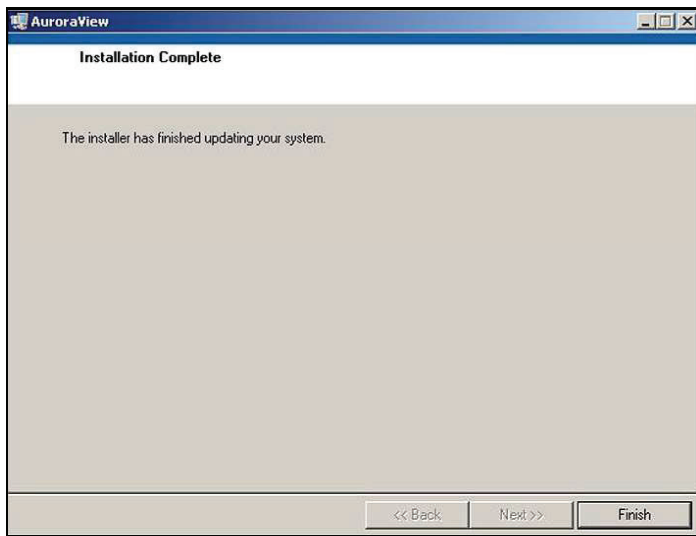

Figure 27: Installation is complete
9. The screen shown in *Figure 27* below appears when the installation is complete.